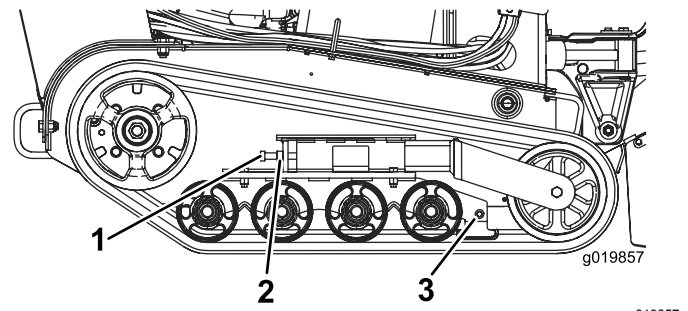

Figure 46
3. Loosen the jam nut on the track tensioning bolt and the clamp bolts on the tension arm (Figure 46).
4. Torque the tensioning bolt to 32.5 to 40 N·m (24 to 30 ft·lb) to tighten the track (Figure 46).
4. Back out the tensioning bolt and jam nut (Figure 46).